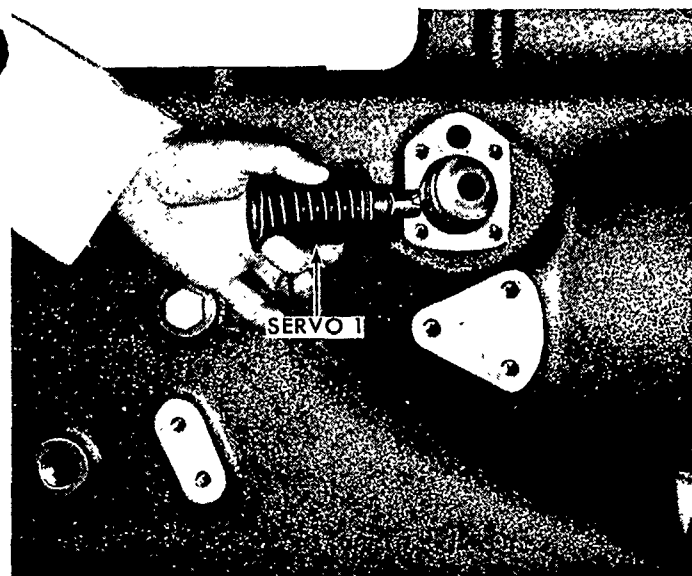

Figure 55
20. Remove the four servo 1 cover attaching bolts and remove the cover. Remove the servo from the transmission, as shown in Figure 55.
8. Install servo 1 in the bore with the slot in the horizontal position, as shown in Figure 55. Install the servo 1 cover.